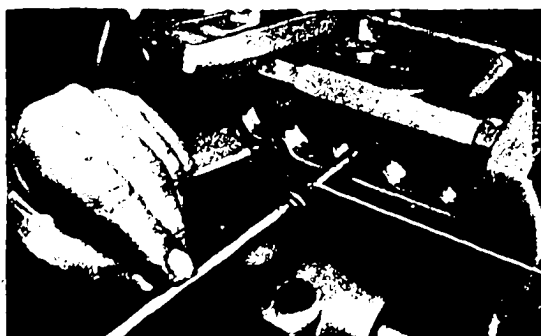

Fig 59 Inserting plunger and lower spring plate
e) Insert pump plunger together with lower spring plate by means of plunger pliers (see section B, 2 c) (Fig. 59).
Plungers must be inserted in such a way that the order number punched on the plunger vane faces upwards or forward (see Fig. 59).